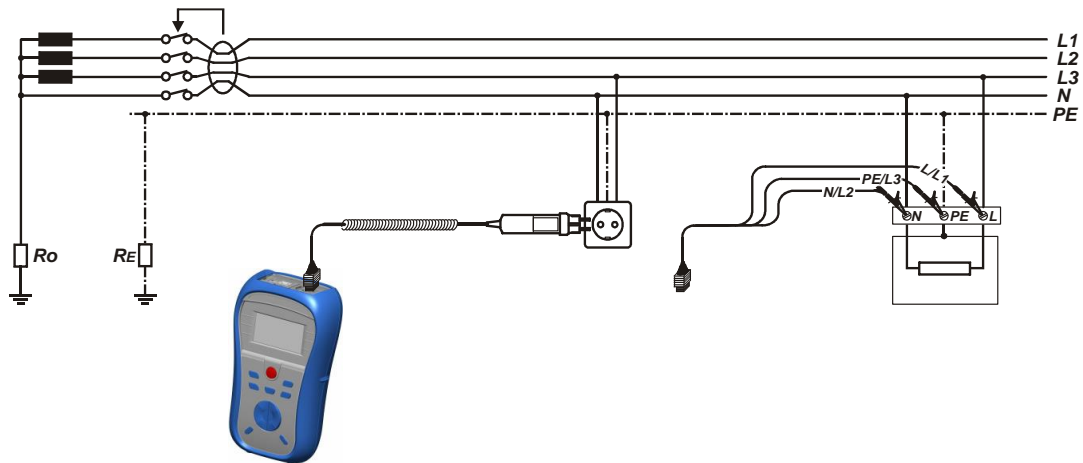

Figure 5.2: Connecting the plug commander and the universal test cable
- ❑ **Connect** test leads to the item to be tested (see figure 5.2).
- ❑ **Connect** test leads to the item to be tested (see *figure 5.2*).
<ul style="list-style-type: none"> ❑ Select the RCD function using the function selector switch. ❑ Set sub-function AUTO. ❑ Set test parameters (if necessary). ❑ Connect test cable to the top of the instrument. ❑ Connect test leads to the item to be tested (see figure 5.2). ❑ Press the TEST key to perform the test. 	Start of test